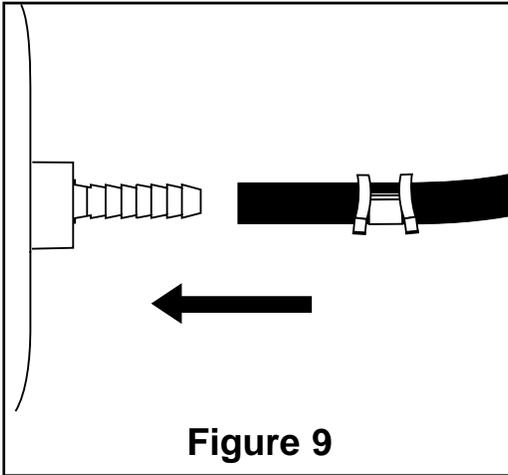

Figure 9
- G. Push the air line onto the stem, covering all the barbs (Figure 9). With pliers slide the air line clamp upward until it fully covers the barbed section.
- E. Push the air line onto the stem, covering all the barbed section (Figure 9). With pliers slide the air line clamp forward until it fully covers barbed section.